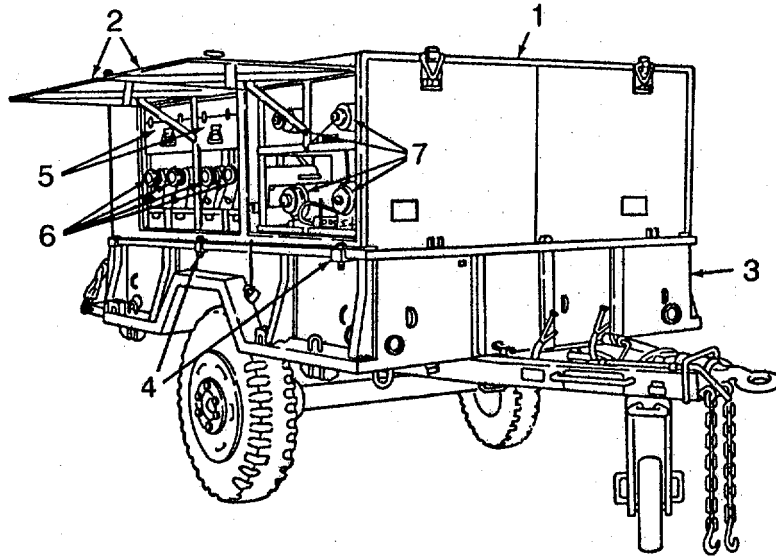
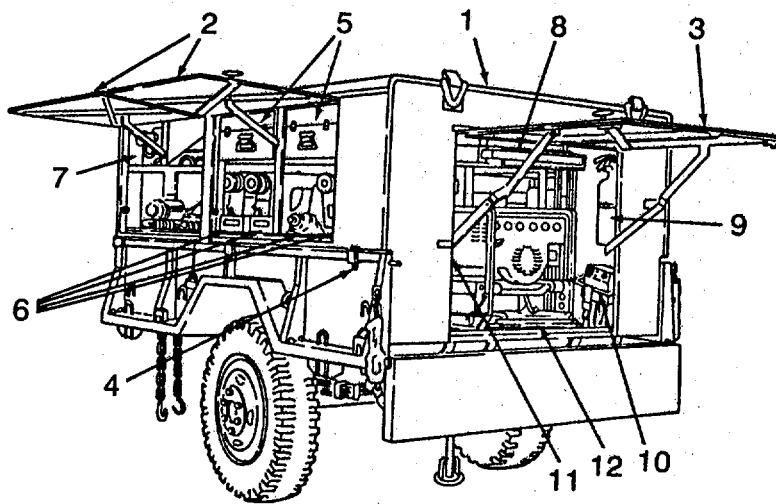

Figure 1-1
Figure 1-2
- (1) Equipment housed in weather proof cabinet.
- a. Cabinet Assembly. The weather-proofed aluminum cabinet assembly (1, fig. 1-1 and 1, fig. 1-2) is designed to house and transport all of the equipment required for the operation of the clothing repair shop. It has two swing up doors (2, fig. 1-1 and 2, fig. 1-2) on both the curb and street sides, and one swing up door in the rear (3, fig. 1-2) for easy access to the equipment in the cabinet. The cabinet assembly is mounted in the bed of a 1-1/2 ton utility cargo trailer (3, fig. 1-1) and is secured to the trailer bed frame by six holddown clamp assemblies (4, fig. 1-1 and 4, fig. 1-2). The cabinet contains the following:
- (1) Four compartments (two on the curb side and two on the street side) for the stowage boxes (5, fig 1-1 and 5, fig. 1-2), which are used for storing the grommet press, tack button attaching machine, spare parts, hardware accessories and attachments necessary for operation of the Clothing Repair Shop.
- (2) Eight wooden tray assemblies for stowing the sewing machine heads (6, fig. 1-1 and 6, fig. 1-2).
- (3) Eight compartments for the machine table assemblies (7, fig. 1-1 and 7, fig. 1-2).
- (5) One compartment (rear) for the two table assemblies (8, fig. 1-2)
- (7) Space on the rear curb side of the cabinet for fire extinguisher (9, fig. 1-2) and heat sealer (10, fig. 1-2).
- (8) Space in the rear street side, front street side and front curb side for the folding chairs (11, fig. 1-2).
- (9) Space on rear floor for four folding stands (12, fig. 1-2).